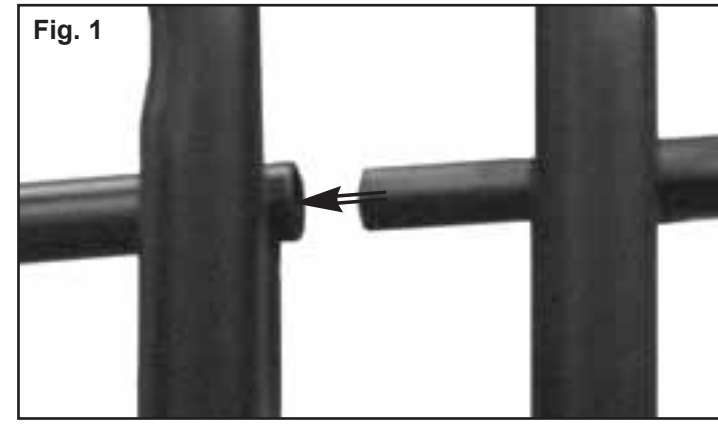

Fig. 1
4. Insert the provided M10-1.5x110 mm socket head screw through the hole in the guardrail base plate and into the nut on the ramp leg plate. (See Fig. 2. See also Fig. 1 on page 10)
3. When the ramp is in place, lower the ramp off its casters by rotating the yellow handle above the caster 90 degrees. This will release the caster. (See Fig. 1)